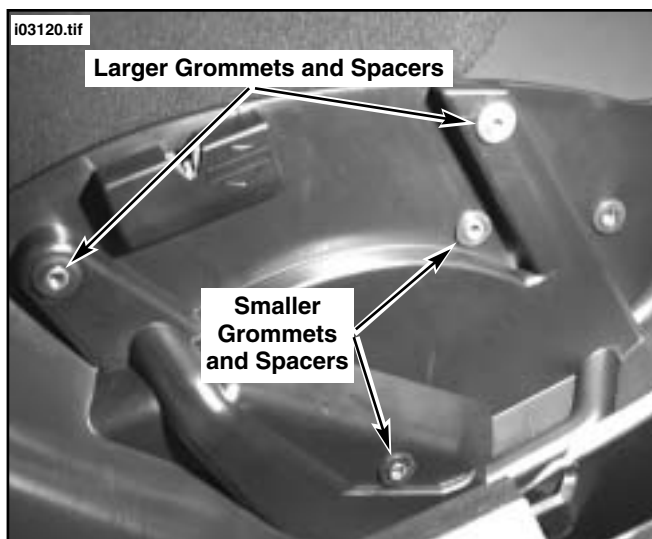

Figure 10. Install Grommets and Spacers
16. See Figure 10. Obtain left saddlebag, 3 small grommets (P/N 90148-00) and 2 large grommets (P/N 11447). Install the large grommets to the upper two holes and 3 small grommets to lower 3 holes in the saddlebag assembly as shown.